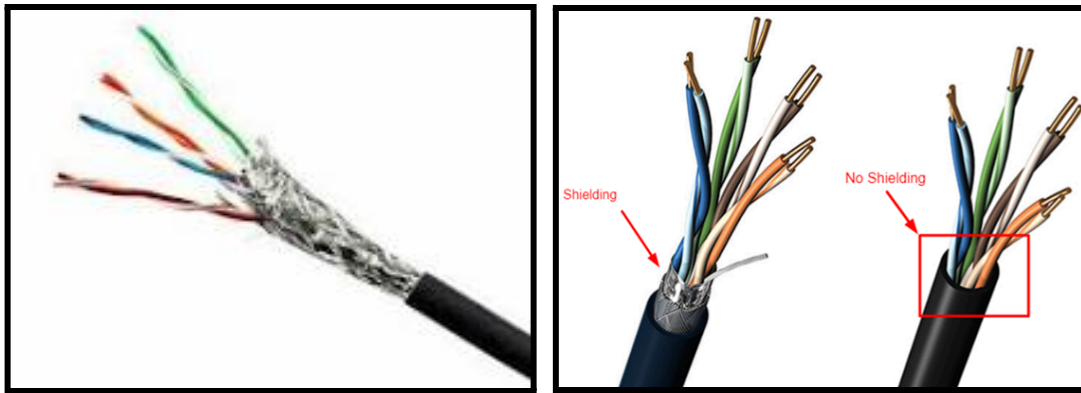

Figure 25: STP Cable reference image
- Ensure that **Shielded Twisted Pair (STP)** cables are used for the connection. It's essential to cross-verify this directly with the technician on-site. If STP cables are not used, it may lead to connectivity issues caused by external interference or signal degradation. Such problems can be intermittent and challenging to diagnose or troubleshoot remotely through the Bridge or CMVR. Using proper STP cabling helps maintain stable and consistent communication between devices. See Figure 25.